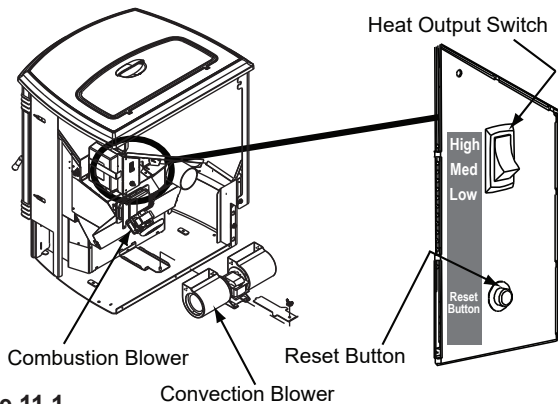
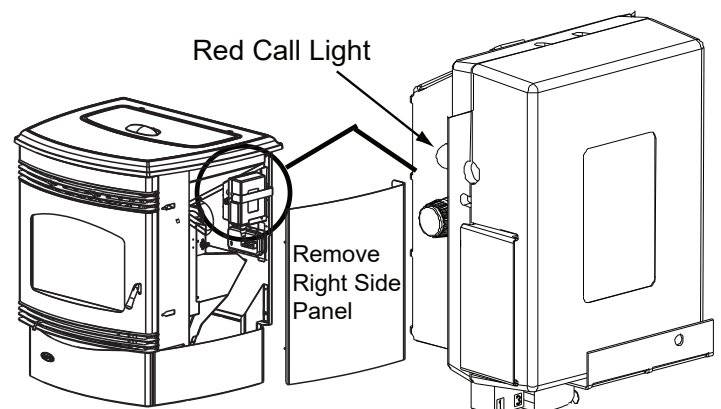

Figure 11.1
Figure 11.2
This appliance is equipped with a heat output control switch that has three settings or burn rates; low, medium and high. The appliance will turn on and off as the thermostat demands. When the thermostat calls for heat, the appliance will start up at the burn rate for which it is set. If the appliance is set at one of the lower settings, it will run quieter but take longer to heat up an area than if it were set at a higher burn rate. Regardless of the burn rate, when the area is warm enough to satisfy the thermostat, the appliance will shut off (**Figure 11.1**).
3. Locate the heat output control switch mounted on the back of the appliance in the upper right corner (**Figure 11.1**). Turn it to the "high" setting by pushing the top of the control switch in and then adjust the thermostat to its highest setting. Remove the right side panel and the red call light located to the left of the control box will be on (**Figure 11.2**). This indicates the thermostat is calling for heat.
3. Occasionally the appliance may run out of fuel and shut itself down. When this happens, the red call light will be on (**See Figure 11.1 on page 11**). To restart it, fill the hopper and press the reset button (**See Figure 10.1, page 10**). When you press the reset button the red call light will go out. Release the button and the light will come back on. You should see a fire shortly. If not, follow the instructions on page 8, of "Starting Your First Fire".